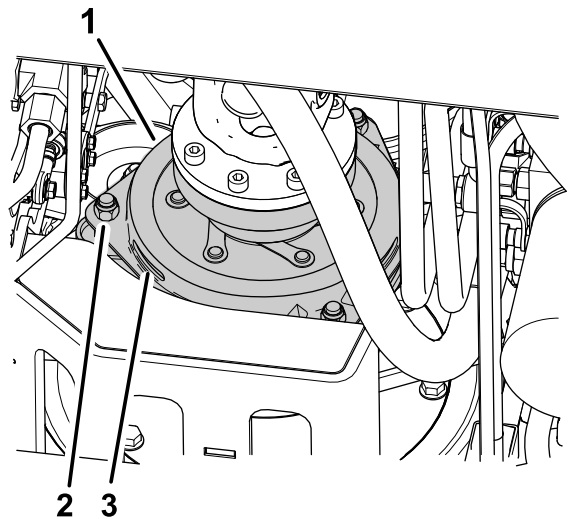

Figure 80
3. Adjust the air gap so that a 0.3 mm (0.012 inch) feeler gauge slides in between the clutch lining and friction plate with light pressure (Figure 80).
Note: You can decrease the gap by turning the adjusting nuts clockwise (Figure 80). The maximum service gap is 0.6 mm (0.024 inch). Adjust all 3 air gaps to 0.4 mm (0.012 inches).